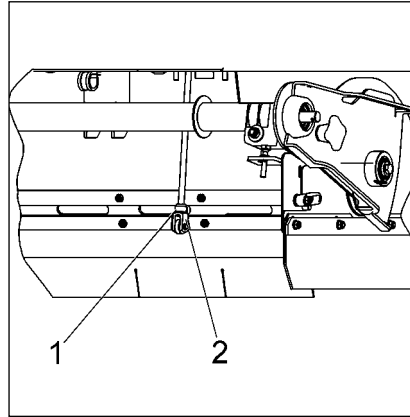

Fig.18
- Remove bolt (Fig. 18/2).
- Modify adjustment by turning the fork head (Fig. 18/1).